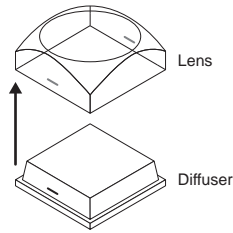

Figure 3.19 Removing Lens from Diffuser
2. Remove the **Lens** from the **Diffuser** by using your fingernail, or common end micro screwdriver, to pry the two apart (**Figure 3.19**).